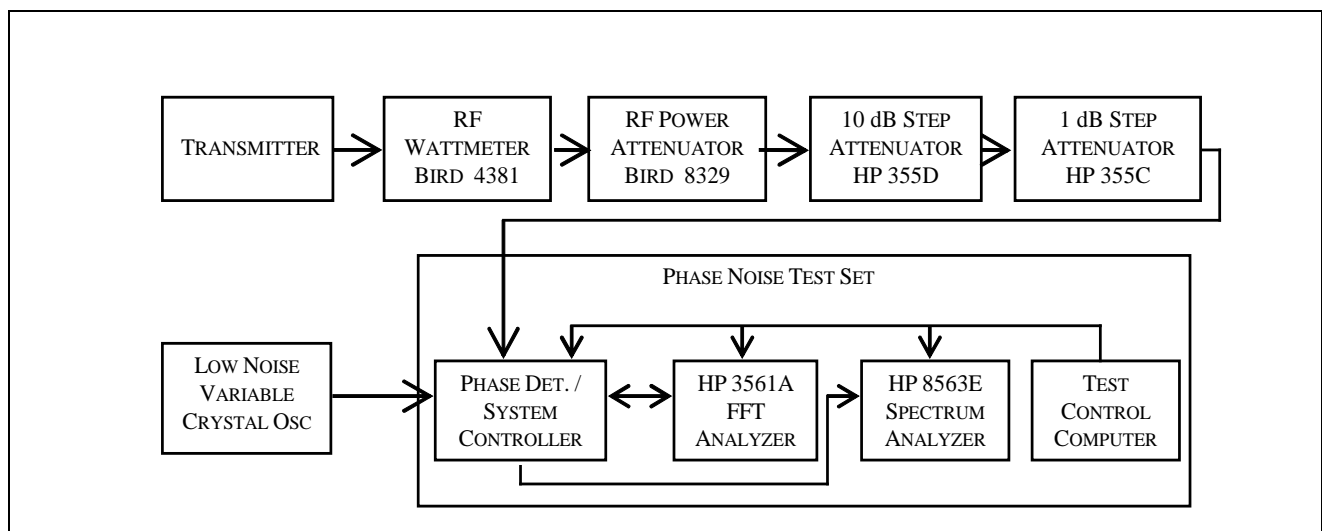

Fig. 4-11 — Composite Noise Test Hook-up
4.11.2 Test Hook-up (See Fig. 4-11).